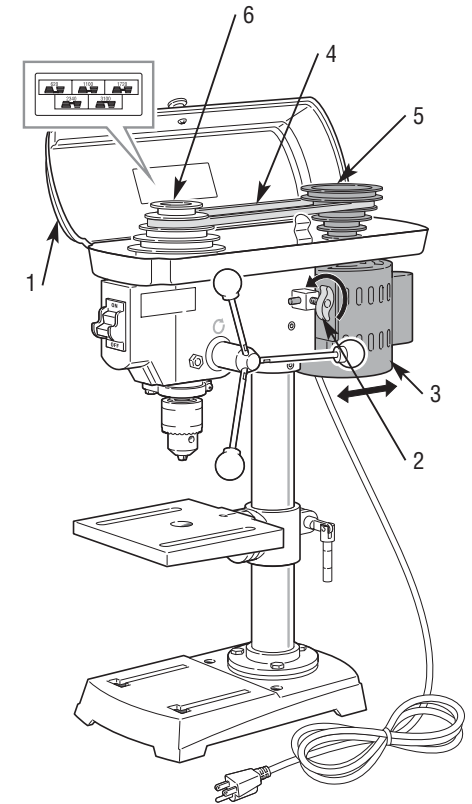

FIGURE 14.
1. Lift up the pulley cover (1).
2. Release the belt tension by loosening the tension lock knob (2) located on the side of the drill press head. Loosen the tension lock knob (2) by turning it counterclockwise.
3. Pivot the motor (3) towards the front of the drill press.
4. While holding the motor pivoted to the front of the drill press, position the belt (4) on the desired step of the motor pulley (5) and the spindle pulley (6). See Figure 14.
5. After attaining the desired spindle speed, pivot the motor (3) to the rear of the drill press and securely tighten the tension lock knob (2) by turning it clockwise.
6. The belt (4) should be tight enough to prevent any slippage. If the belt is overtightened, the life of the belt will be noticeably reduced.
7. Close the pulley cover (1).